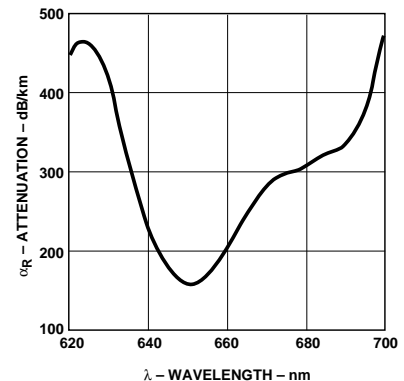

Figure 1. Typical POF Attenuation vs. Wavelength.
7. Note that  $\alpha_R$  rises at the rate of about  $0.0067$  dB/°C, where the thermal rise refers to the LED temperature changes above  $25^\circ\text{C}$ . Please refer to Figure 1 which shows the typical plastic optical fiber attenuation versus wavelength at  $25^\circ\text{C}$ .